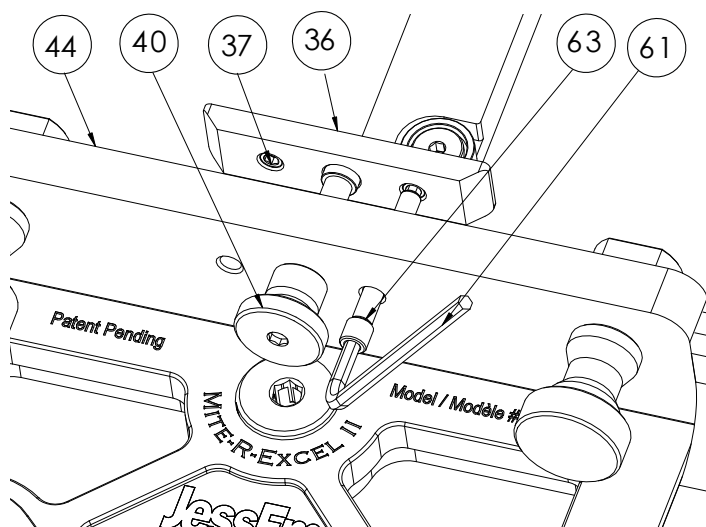
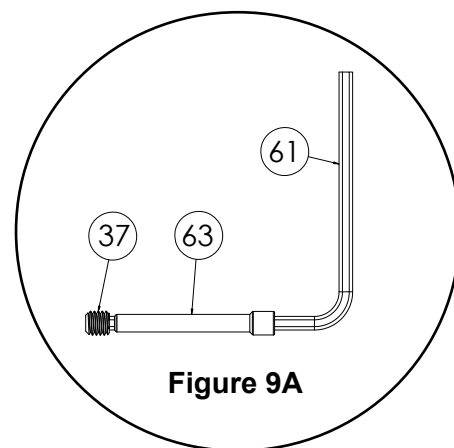

Figure 9
Figure 9A
- d. Using the 3/32" Hex Key provided, attach the hex key extension (Part #63) to the Hex Key **Figure 9A** and insert the hex key into each of the two holes next to the Fence Locating Pin Knob and loosen the #10-32 x 3/16" Flat Point Set Screws (Part #37). See **Figure 9**